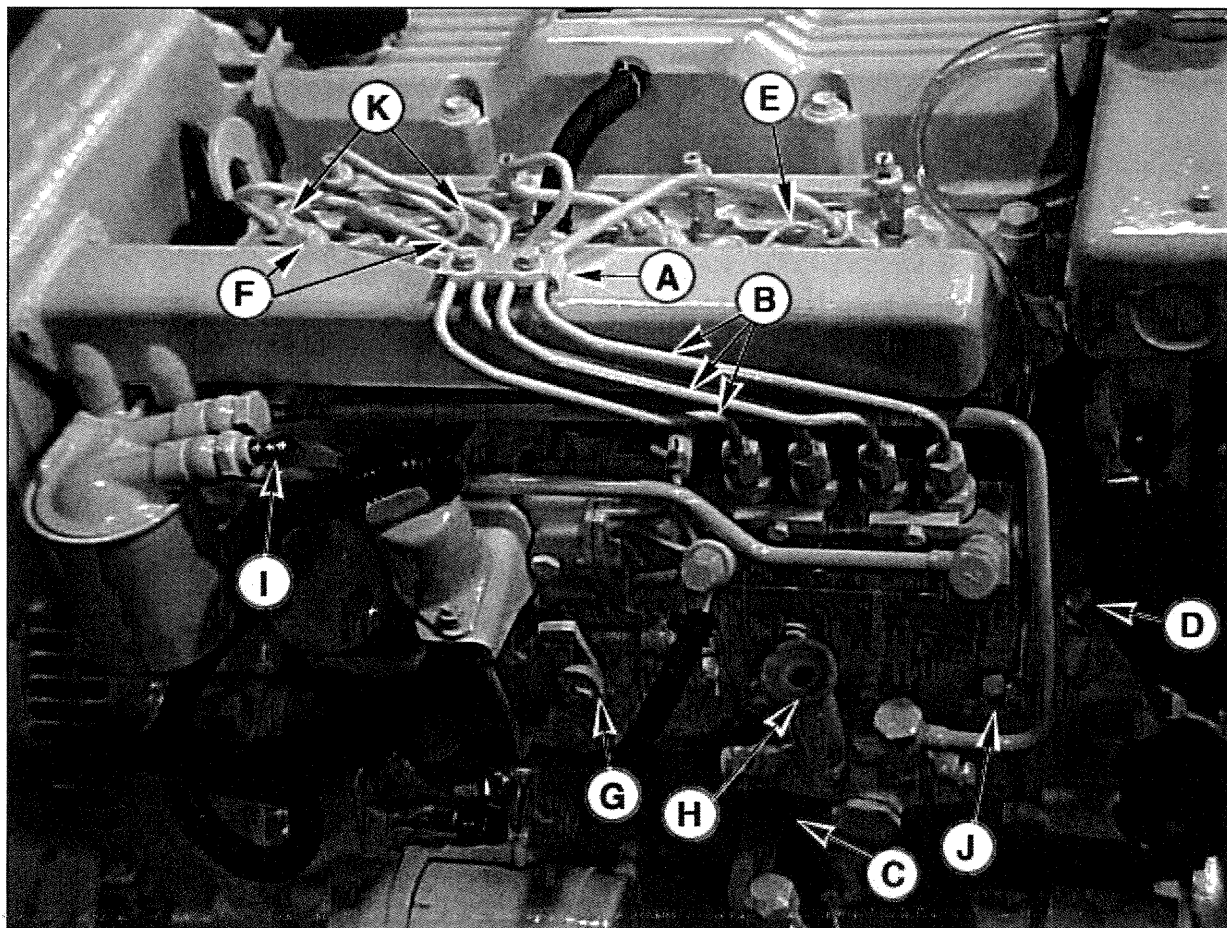

Figure 12: Fuel System
- b. Relieve high pressure in the fuel lines by loosening the delivery line flare nuts at each injector (Figure 12-L).
- c. Remove delivery lines (Figure 12-B) by disconnecting from injectors and injection pump. Remove all lines as an assembly; do not remove the spacers. Cover the ends of the lines, the injector inlets and injection pump outlets to keep dirt out.
- d. Remove the return line retaining nuts (Figure 12-F), washers, and return line.
- e. Loosen the injector (Figure 12-G). Remove the injector.
- c. Reinstall injection lines (Figure 12-B). Tighten flare nuts (Figure 12-L) at injection pump to 18.2 - 25.3 ft/lbs (2.5 - 3.5 k/gm). Leave the lines loose at injectors for bleeding.
- d. Bleed the injection lines (Figure 12-B). Crank the engine to fill the lines. Tighten flare nuts at injectors to 18.2 - 25.3 ft/lbs (2.5 - 3.5 k/gm).
- b. Remove the injection lines (Figure 12-B) from the pump and injectors. Remove all lines as an assembly. Do not remove the spacers. Cover the ends of the lines, the injector inlets, and the injection pump outlets to keep dirt out of the injectors, lines, and pump.
- c. Remove the plug (Figure 12-E) from the timing case cover. Use an indelible marker to put a mark on the injection pump gear through the plug hole. You will use this mark to align the pump during reassembly. Do not rotate the crankshaft after marking.
- d. Remove the 4 mounting nuts (Figure 12-K). One (1) is found on the back side of the injection pump, and three (3) are found on the front side.
- c. Pressurize the system with the hand primer pump (Figure 12-I).